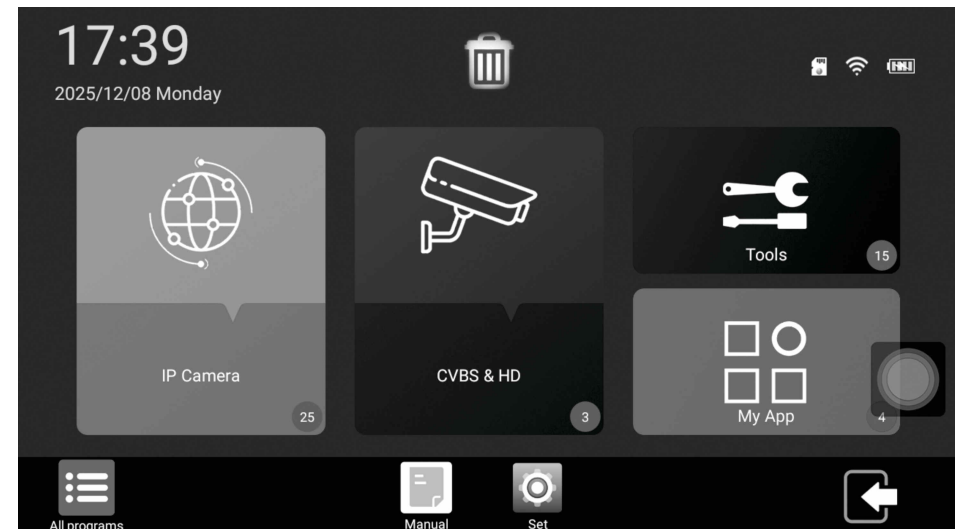

Figure 3
3) Press and hold an icon in the toolbar to drag it to any folder, the shortcuts bar, the “All Apps” area, or the uninstall icon “” to uninstall. Drag an icon into one of the 6 dotted boxes “” in the shortcuts bar to add it; drag within the shortcuts bar to reorder. (See Figure 3.)